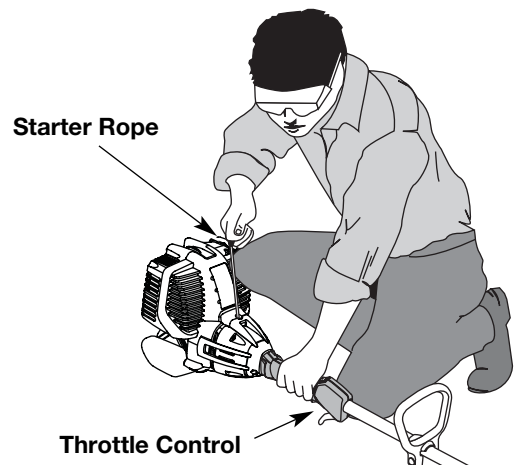

Fig. 11
**WARNING:** Avoid accidental starting. Make sure you are in the starting position when pulling the starter rope (Fig. 11). To avoid serious injury, the operator and unit must be in a stable position while starting.
4. With the unit in the starting position, **do not squeeze the throttle control** (Fig. 11). Pull the starter rope out a short distance, until you feel some resistance. This is usually around 2-4 inches. Then pull the starter rope out with a **controlled and steady motion** 5 times. The engine should start.